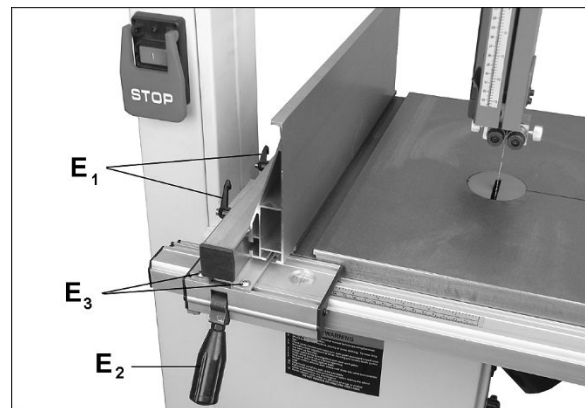

Figure 5-19
5. If adjustment is needed, use the set screws which are located next to the fence body screws (E₃, Figure 5-19). Loosen the four screws (E₃) and turn any of the four adjoining set screws in or out as needed, until fence is flat against blade.
7. Loosen handles (E₁, Figure 5-19) and slide fence onto bar. Tighten handles (E₁).
8. Slide fence against edge of miter slot (Figure 5-19) and push down handle (E₂) to lock position. The fence should align parallel to miter slot along entire length of fence.
9. If adjustment is needed, loosen four screws (E₃, Figure 5-19) and shift fence body as needed to align fence with miter slot.
13. Verify that fence, top-to-bottom, lies flat against side of blade. If it does not, use the set screws which are located next to the fence body screws (E₃, Figure 5-19). Loosen the four screws (E₃) and turn any of the four adjoining set screws in or out as needed, until fence is flat against blade.
4. If adjustment is needed, loosen the four screws (E₃, Figure 5-19) on the fence body and nudge fence body left or right along the tracks in the fence guide, until cursor aligns with zero when fence is against blade.